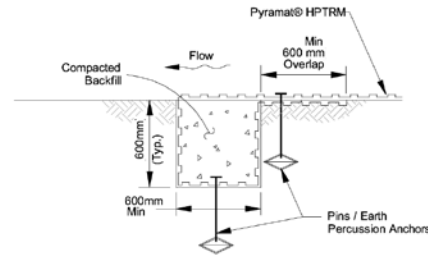

FIGURE 2: INITIAL TRENCH (DOWNSTREAM) DETAIL
- Excavate an initial anchor trench 600mm x 600mm minimum wide across the channel at downstream end of project (see Figure 2). Deeper initial trench and/or hard armoring may be required in channels that have the potential for scour.
- Beginning at the centerline of the channel, place roll end into the initial trench (with a 600mm minimum lap) and secure with pinning devices on 300mm centers and with earth percussion anchors on 1.2m centers (see Figure 2). Position adjacent rolls and secure in trench in same manner. Backfill and compact soil into trench as directed and approved by Engineer.
- Secure initial trench lap with pinning devices on 300mm centers and with earth percussion anchors on 1.2m centers (see Figure 2).